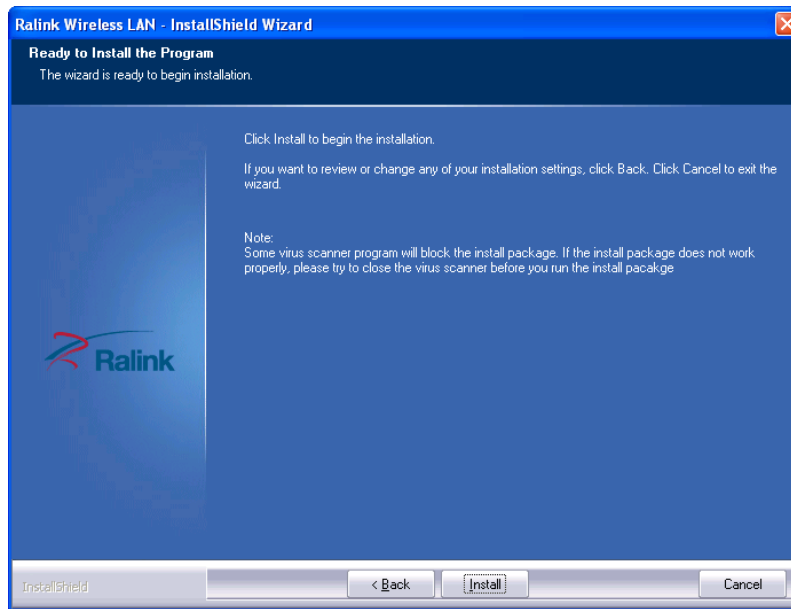

Figure 5-37: Ready to Install the Program
Step 10: The **Ready to Install the Program** screen in **Figure 5-37** appears.